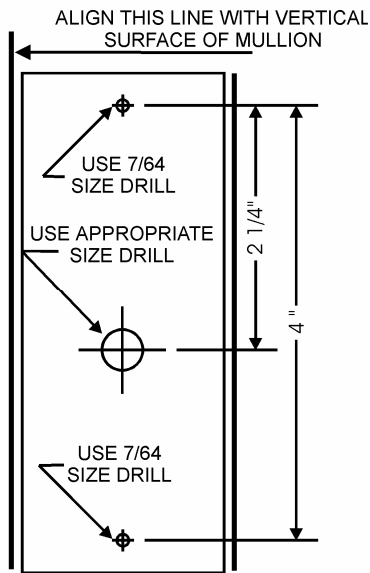

FIGURE 1: Holes Location
1. Position the reader (item b in the Parts List) at the desired location. Observe ADA height requirements. Drill two 7/64 (0.109)-inch holes for the reader screws, and one clearance hole for the cable (see Figure 1).